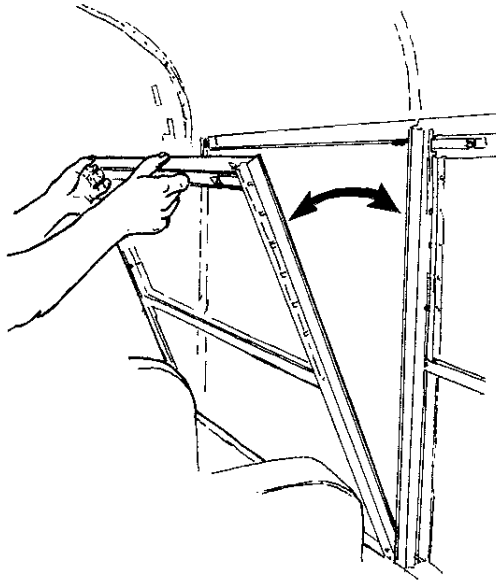

Figure 161 Passenger Window Removal
- b. Tilt the top of the window in and away from the bus light bar assembly. (see Figure 161)